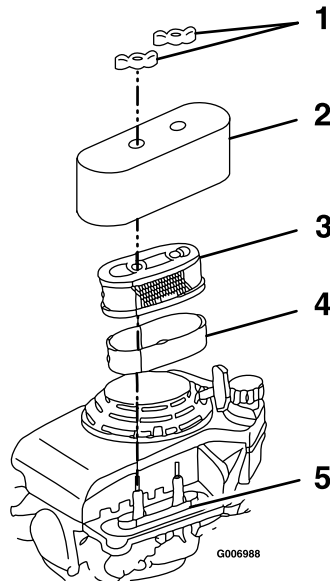

Figure 25
3. Remove the two wing nuts that secure the cover (Figure 25).